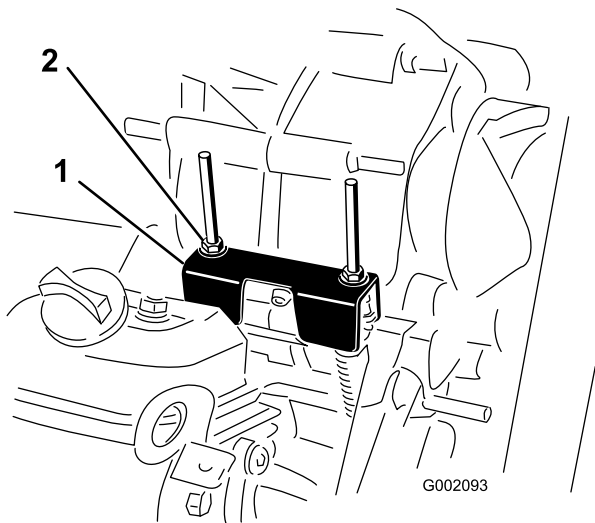

Figure 35
When performing routine maintenance and/or engine diagnostics, the transaxle must be shifted into neutral (Figure 35). The vehicle has a neutral position on the shift lever, which controls the neutral in the transaxle. The following steps should be taken to make sure that the neutral shift lever operates the transaxle neutral correctly:
2. Ensure that the neutral bracket is in the neutral position (level to the cable mounting bracket located below the shift bracket) by turning the driven clutch (Figure 35). The vehicle should not roll back and forth. If it does, manually move the neutral bracket to the neutral position.
3. Tighten one of the locknuts (Figure 35) to achieve a gap of 0.03-0.06 inch.